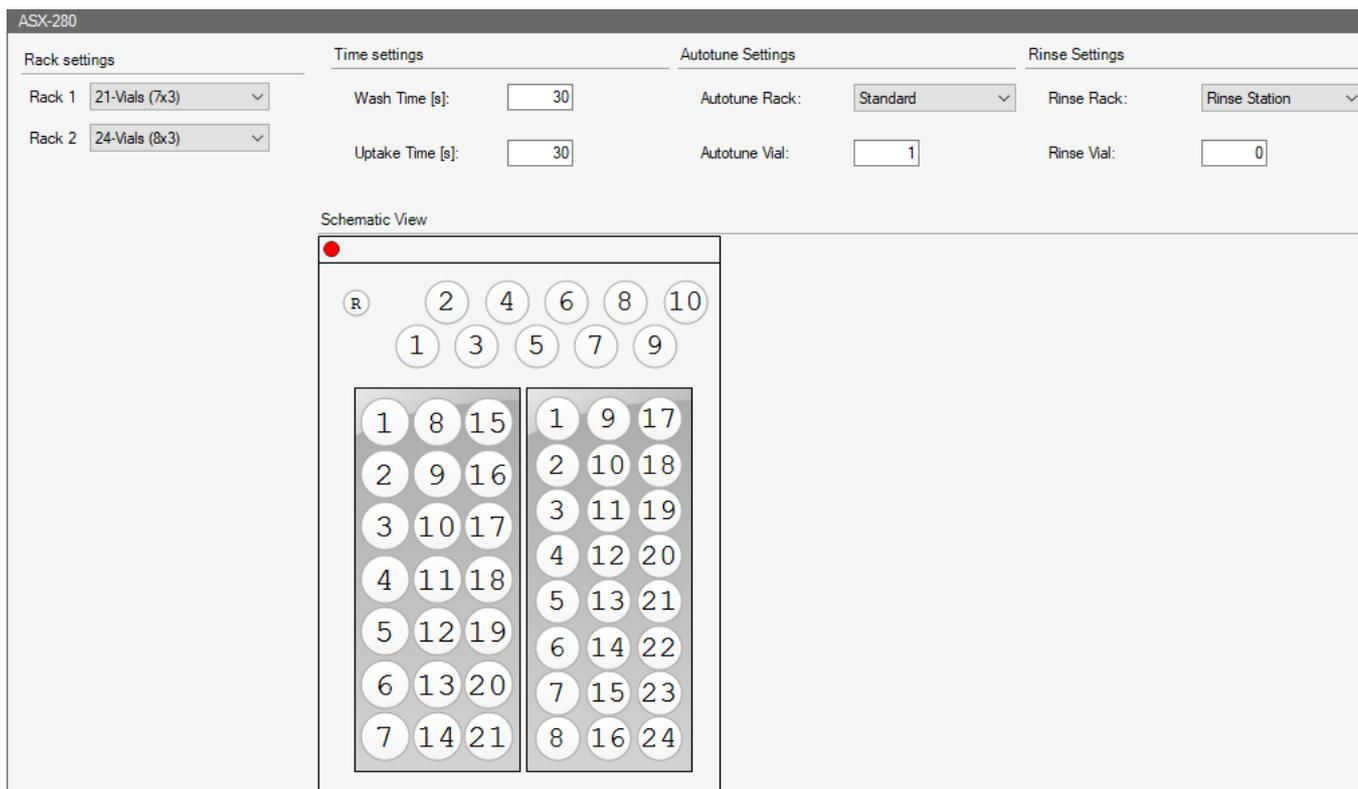

Figure 14-2. Teledyne CETAC ASX-280 settings
2. Click  to open the autosampler view, see Figure 14-2.